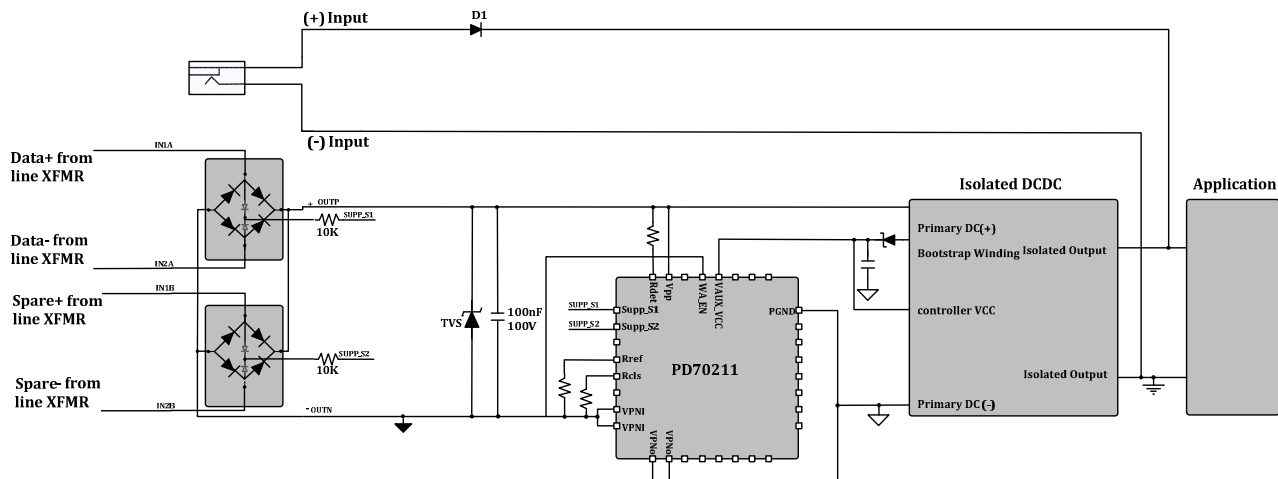
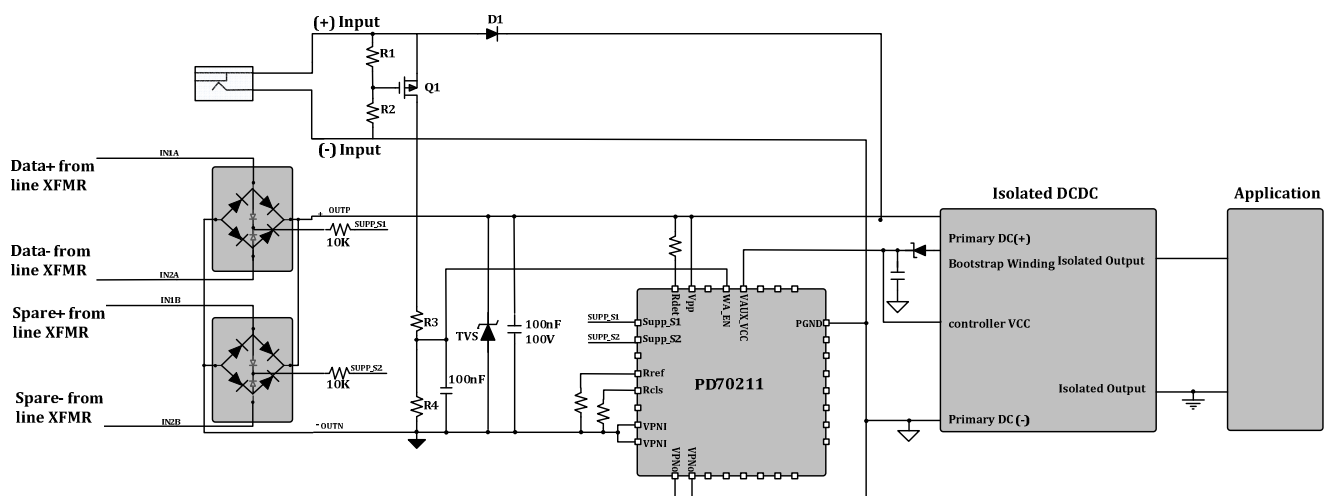

Figure 6: External Power Input connected to Application supply Rails
Figure 7: External Power Input connected to PD70211 Output
Figure 6 and Figure 7.
- Figure 6
- External source connected to PD device output connection toward the application (V_{PP} to VP_{NOUT}). External source voltage level is dependent on DCDC input requirements. Described in Figure 7
External source connected to PD device output (Figure 7)